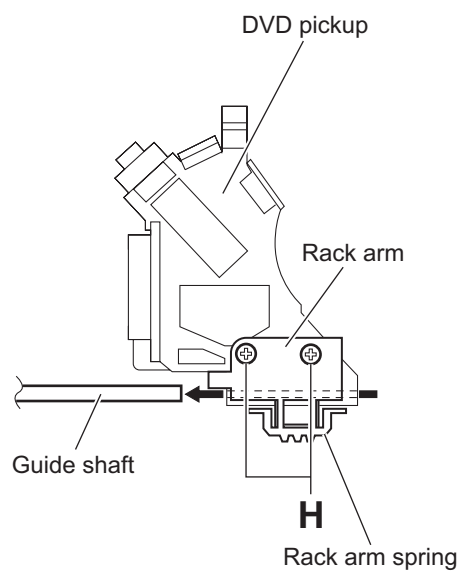

Fig.14
- (7) Remove the two screws **H** attaching the rack arm spring and rack arm. (See Fig.14.)
- (8) Pull the guide shaft from the DVD pickup in the direction of the arrow. (See Fig.14.)
- (1) Attach the guide shaft to the DVD pickup and attach the rack arm spring and rack arm with the screws **H**. (See Fig.14.)